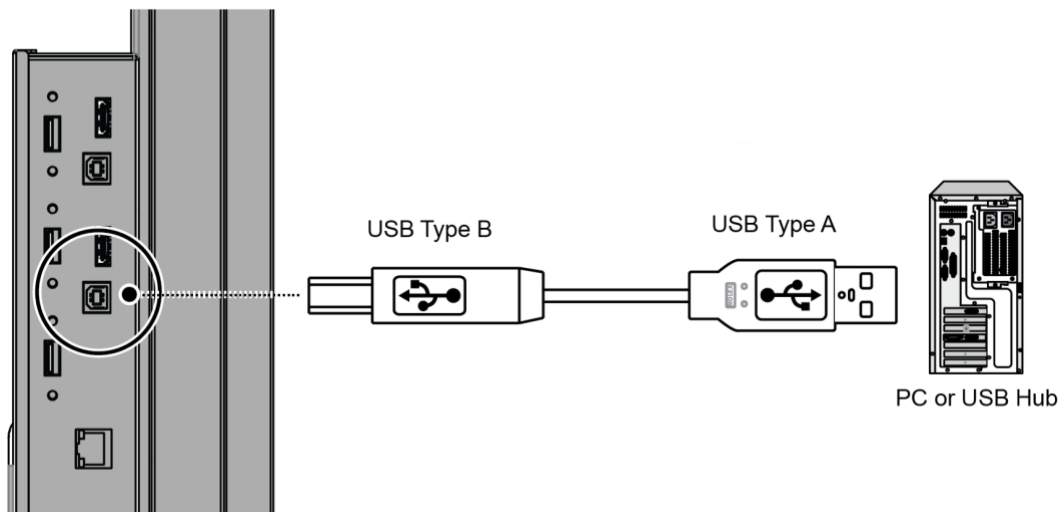

Figure 3-7. Touch Screen Controller (USB) Connection
- Your computer is turned on and connected to the display using the provided USB cable. See Figure 3-7.
Use the provided USB cable to connect the computer to the USB input on the display as shown in Figure 3-7.